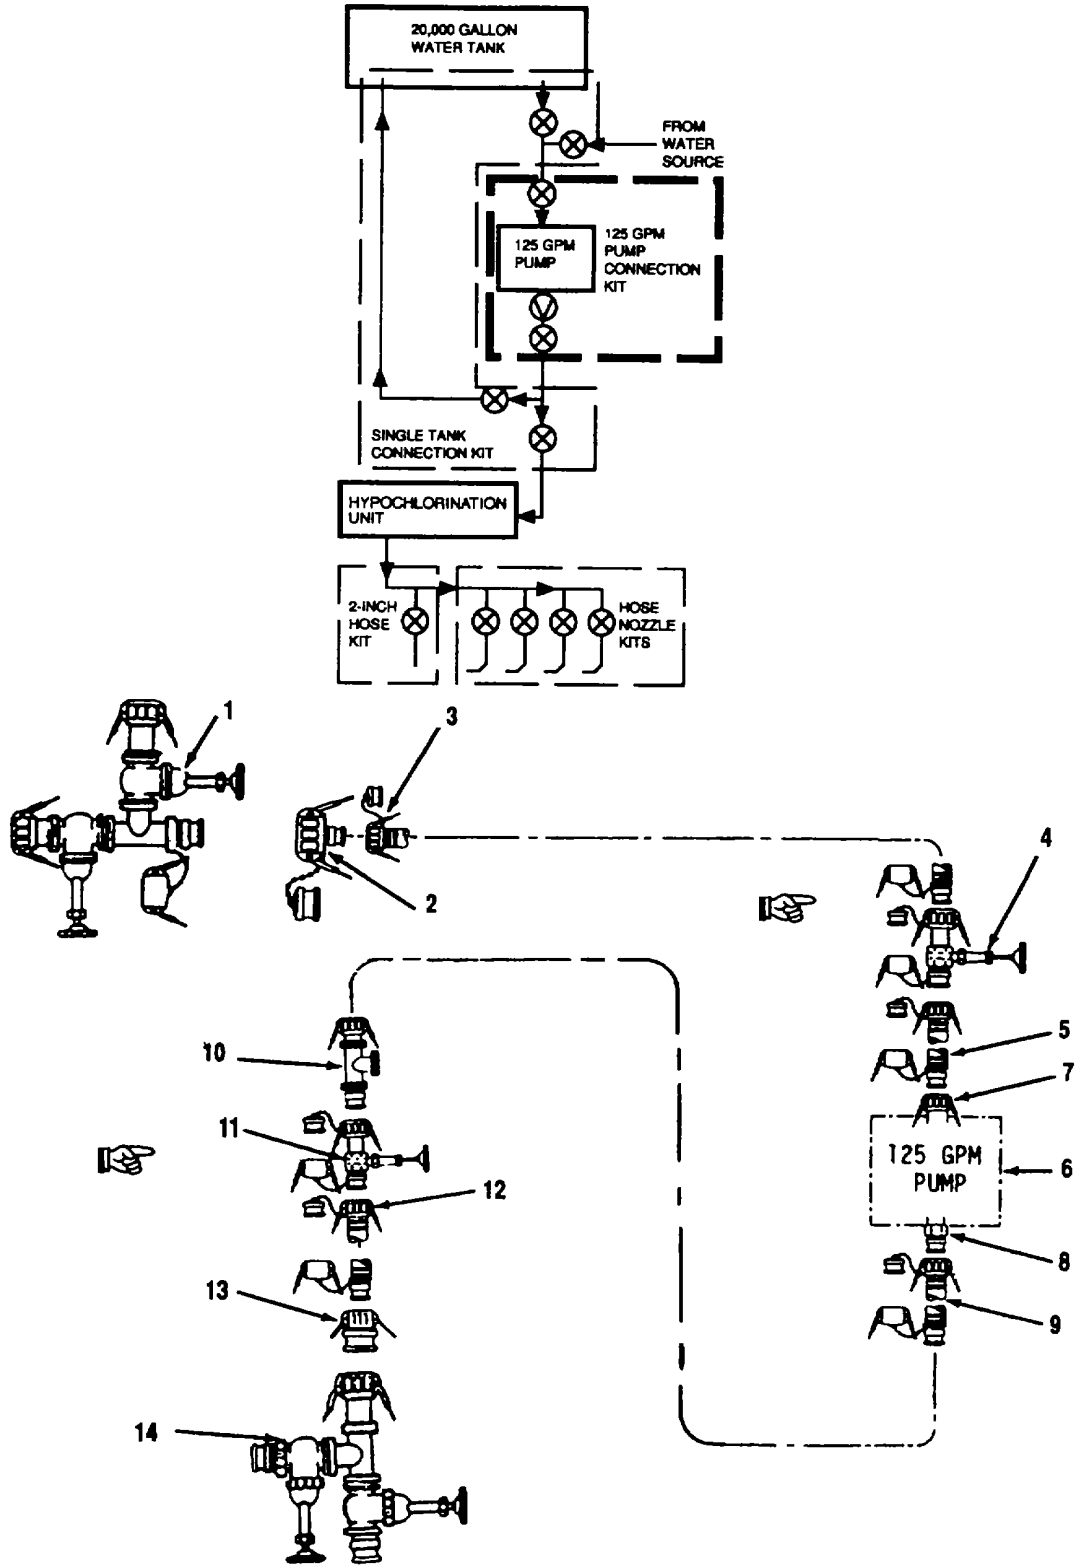

Figure 2-13. 125 GPM Pump Connection Kit Disassembly
- (4) Disconnect reducer (4-inch female x 2-inch male) (4) from tee (3).
- (5) Disconnect tee (3) from 4-inch x 20-foot discharge hose (2).
- (6) Disconnect 4-inch x 20-foot discharge hose (2) from 4-inch x 20-foot discharge hose (1).
- (7) Disconnect 4-inch x 20-foot discharge hose (1) from male (outlet) coupling on hypochlorination unit (8).
- (8) Drain and allow components to dry.
- (9) Install caps and plugs on component couplings (para. 2.7c).
- (10) Roll all discharge hoses and secure with tape.
- d. Disassemble 125 GPM Pump Assembly Connection Kit. Refer to Figure 2-13.